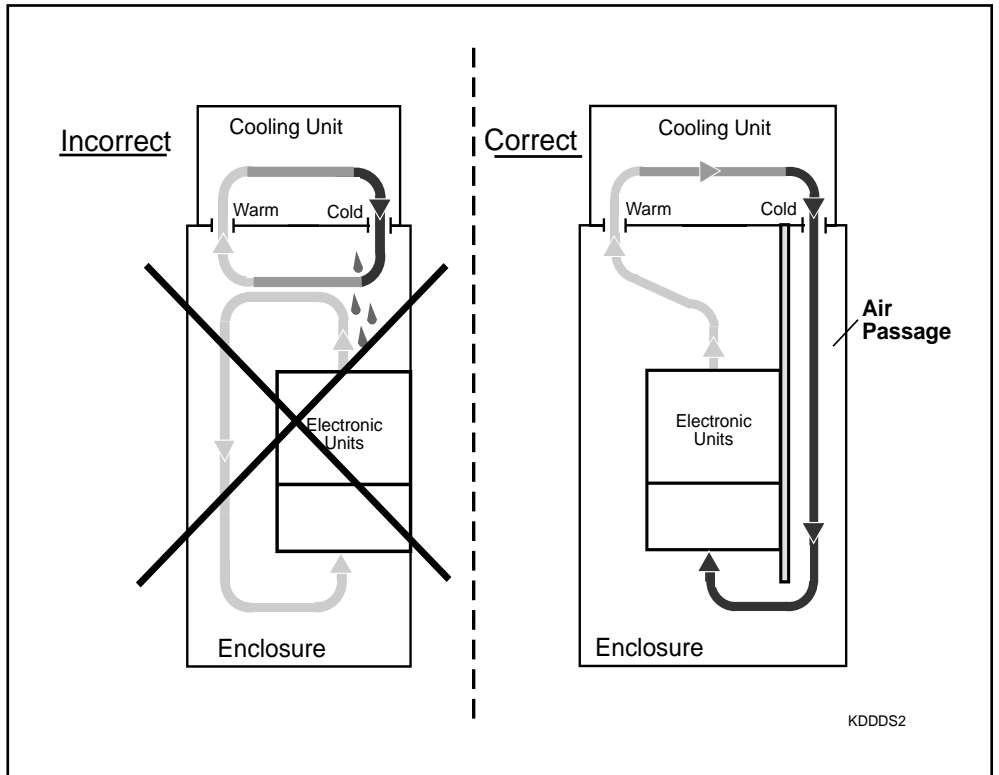

Figure 5.1: Location of cooling unit on the top of the control cabinet.
*Avoid Dripping or Spraying of Condensate* Always install the cooling unit in such a position that any condensate that forms cannot drop down onto the drives installed in the enclosure. Cooling units installed on the top of the enclosure require a special enclosure design (see Figure 5.1)!